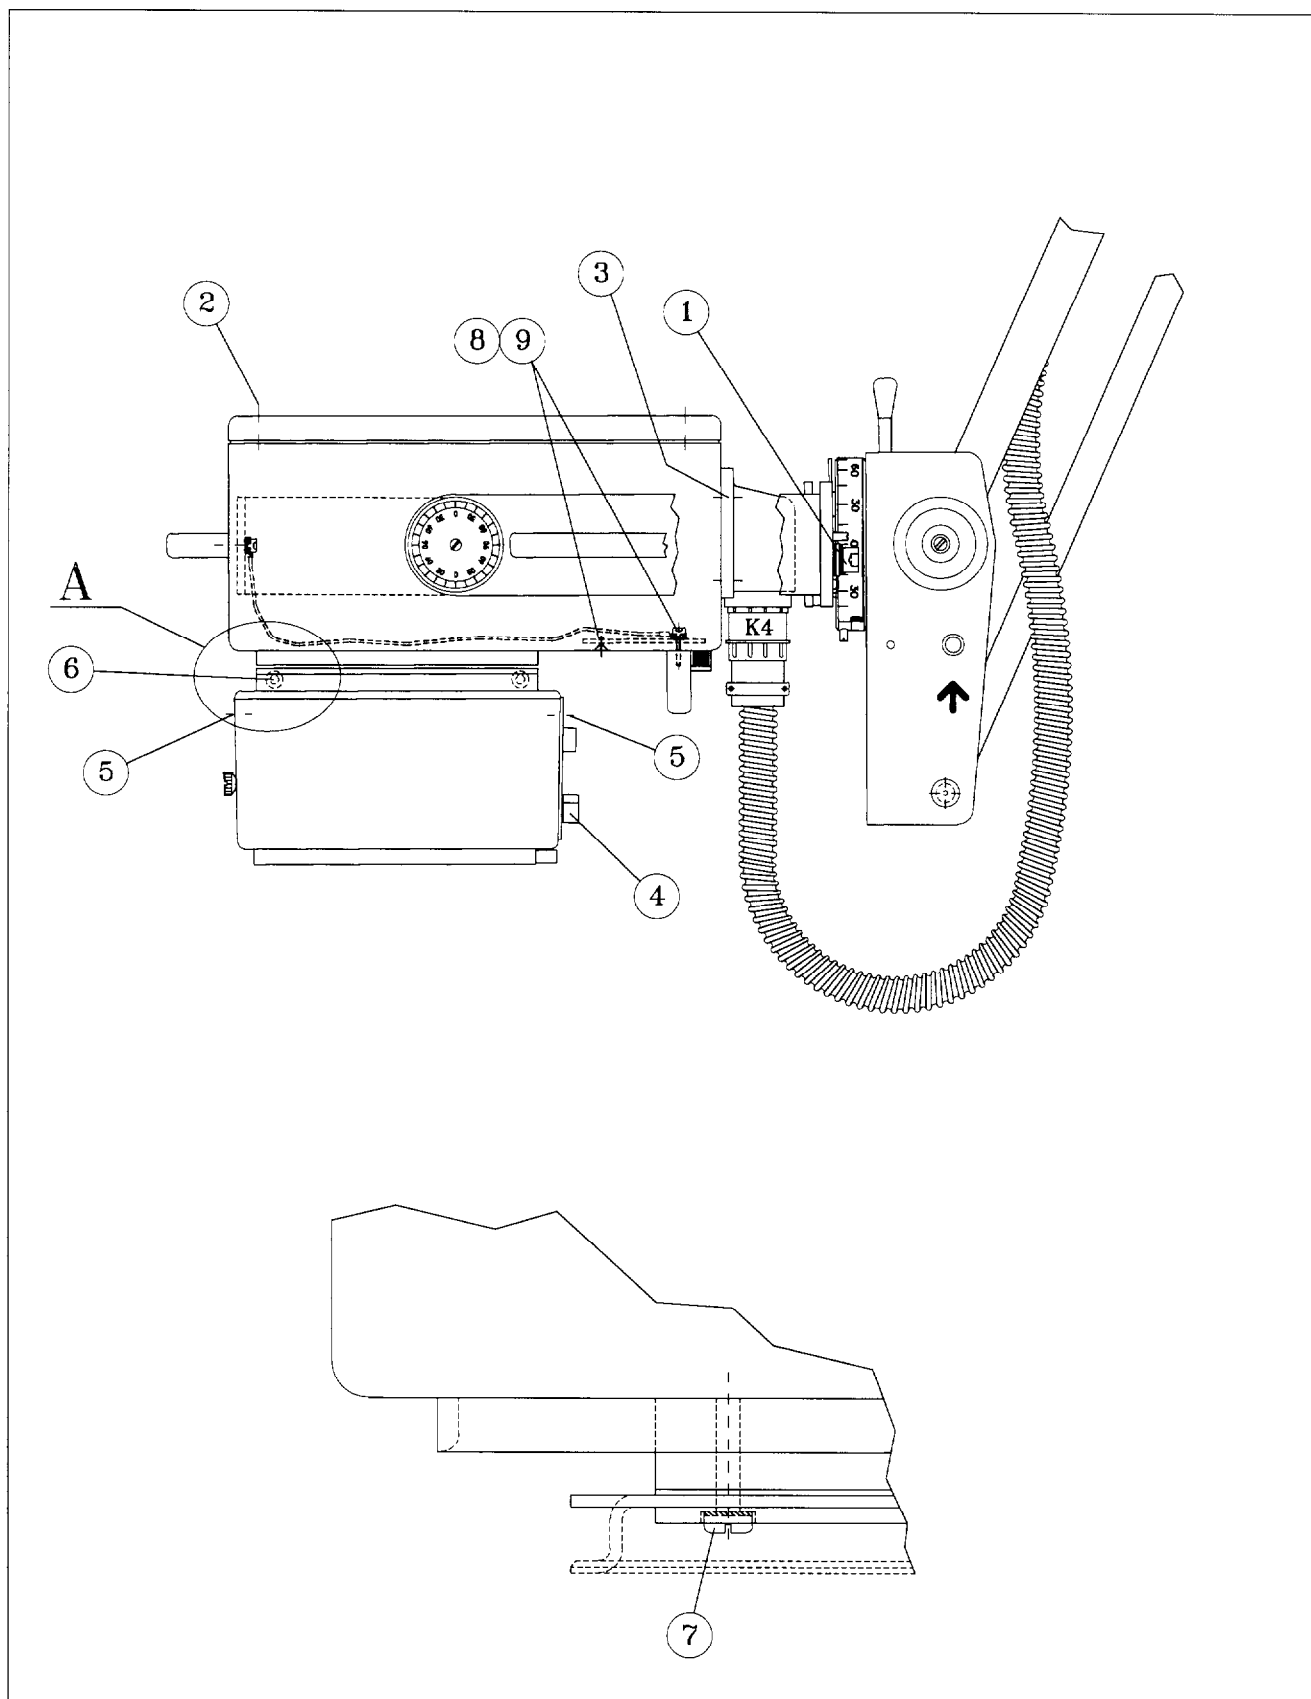

Fig. 2
- Loosen both screws (1/ Fig. 2) on the tube support bracket with the 8 mm Allen key approximately 2 revolutions.
- Remove the 4 Allen screws (refer to 2/ Fig. 2) from the cover of the single tank on the top side of the tube assembly and take off the cover.
- Loosen the screws (3/ Fig. 2) and remove the flange.
- Remove the knobs of the collimator blades (4/ Fig. 2).
- Loosen the screws (5/ Fig. 2) of the collimator housing.
- Loosen the screws (6/ Fig. 2) for the retaining clamp, lift the collimator off and place it to the side. The rotating flange is now visible.
- Loosen the screws (7/ Fig. 2) for the rotating flange and remove it.
- Remove the handle by loosening the screws (8, 9/ Fig. 2) and take out the inner reinforcement. (This will no longer be needed.)
- Insert plug connector K4 into the cover and attach it to the single tank using the spacer. (3/Fig.2).
- Install the new rotating flange with the screws (7/Fig.2). The flange should be installed in the "0" position.